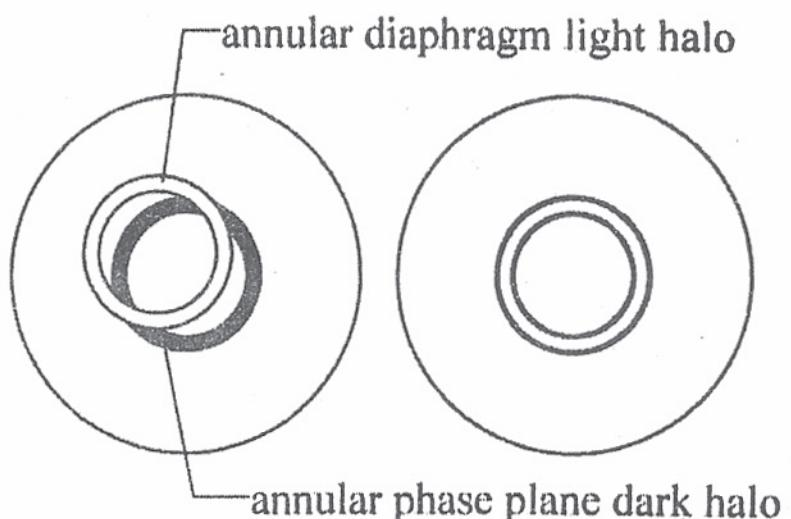

Fig.7
- (5) Adjust annular diaphragm adjustment screw 4, make annular diaphragm light halo and annular phase plane dark halo superposition.(Fig.7)